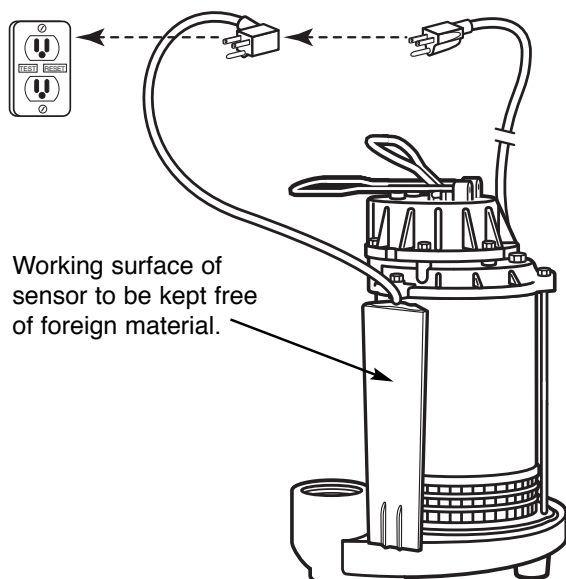

Figure 4 – Solid-State Water Sensor
5. Insert the pump power cord plug directly into the back of the Solid-State Water Sensor cord plug (*Figure 4*).
the pump will run continuously. Once pump operation is verified, replace pump power cord into the back of the Solid-State Water Sensor plug (see *Figure 4*).
SSP-1000 uses a solid-state electronic control with no moving parts (see *Figure 4*), therefore replacement is not needed.